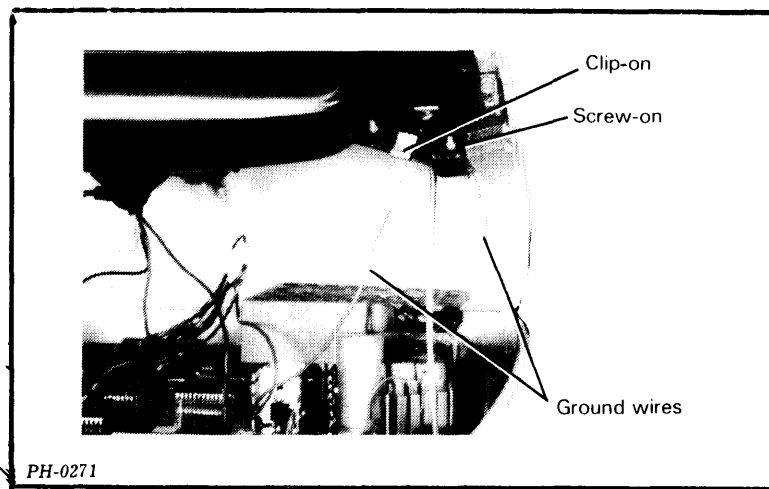

Figure 8.14 Ground wires
7. Remove the two ground wires from the CRT support bracket (see figure 8.14). You may have to use a flat blade screwdriver to pry off the lead containing the push-on clip.